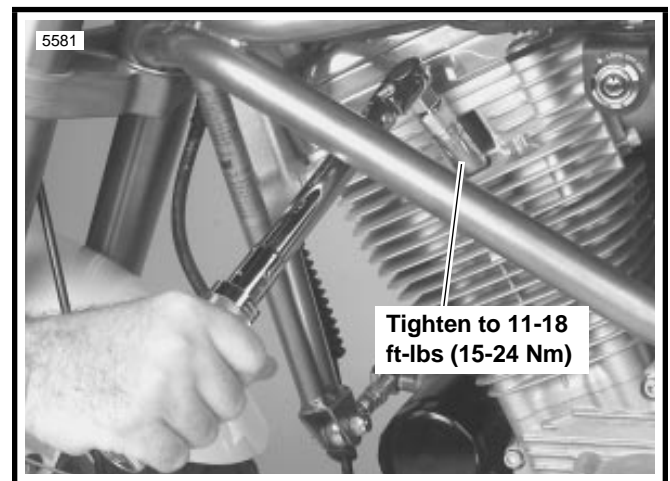

Figure 1-38. Spark Plugs
7. See Figure 1-38. Apply LOCTITE ANTI-SEIZE to plugs. Install and tighten spark plugs to 11-18 ft-lbs (15-24 Nm).